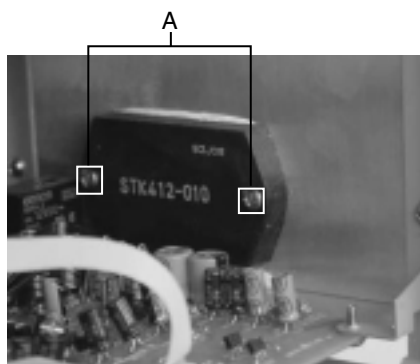

Fig.2
■ Replacing the power IC (See Fig.2)